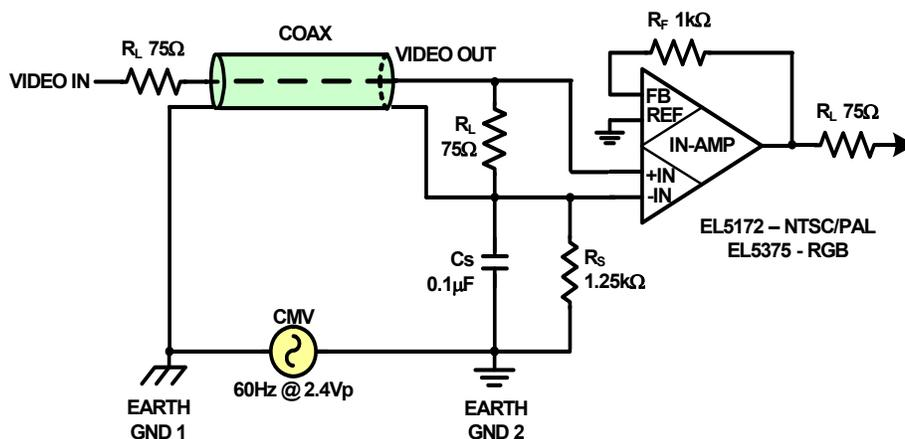

FIGURE 1. RECEIVER CMV REJECTION CIRCUIT
As stated earlier, the receiver rejection is simpler since we can use a common differential video amplifier to remove the CMV (Figure 1). First we need to terminate the coax with the typical 75Ω termination resistor. Next, buffer the incoming video with a gain of one (or two) and impedance match the output with series 75Ω impedance. We selected the differential video amplifiers EL5172 for NTSC and EL5375 (triple version of the EL5175) for RGB.
Addressing the high frequency noise induced onto the shield is simple. As in Figure 1, a single ceramic capacitor (CS) to ground of about $0.1\mu\text{F}$, will short high frequency noise while not having any loading effect on the line noise.